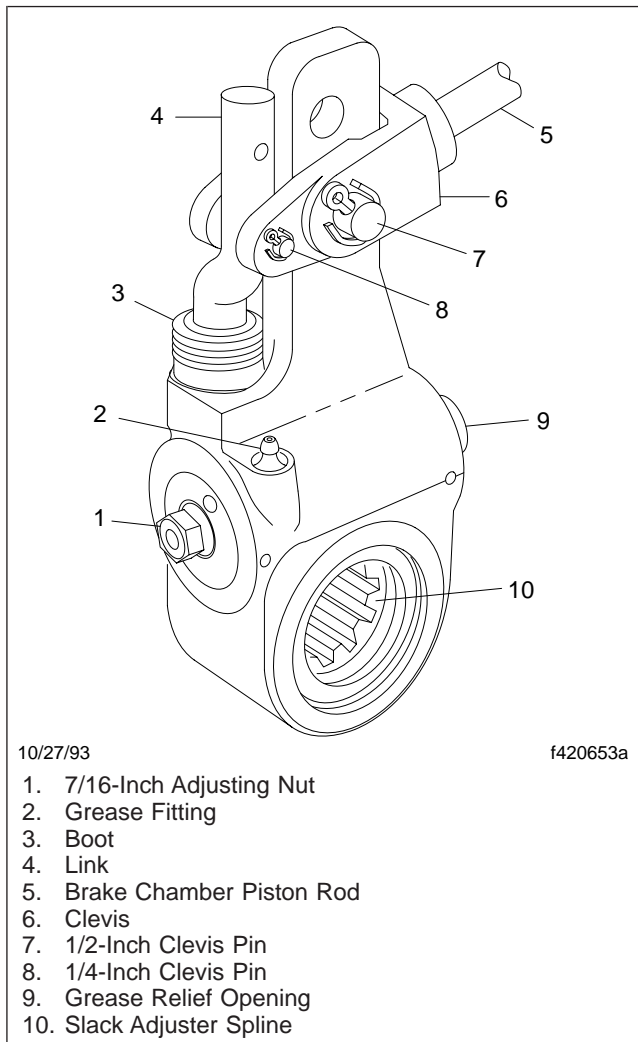

Fig. 2, Gunite Automatic Slack Adjuster
1. Lubricate the slack adjuster until grease flows from the grease relief opening. See **Fig. 2**. For temperatures to -40°F (-40°C), use Lubriplate Aero; for temperatures to -20°F (-29°C), use Texaco Multifak EP-2 or Mobil Grease No. 77.
If the boot is damaged, replace it as follows. See **Fig. 2**.